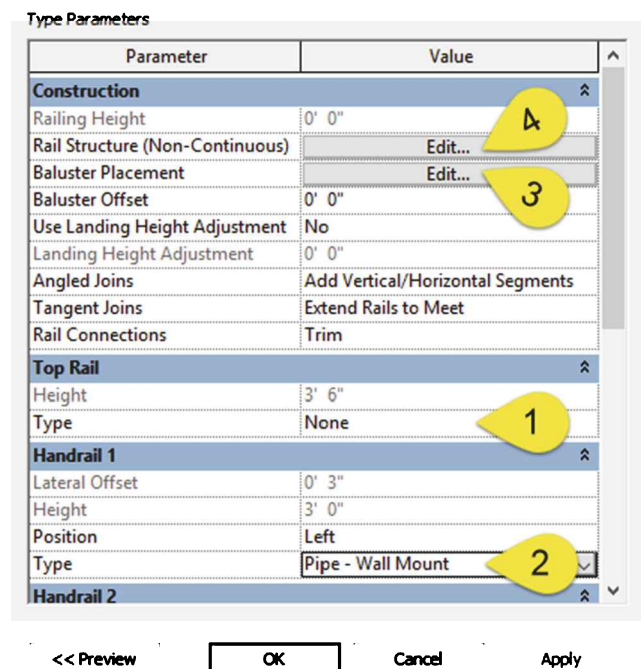

FIGURE 7-7.10 New handrail type; Handrail Only
17. With the railing still selected, click **Edit Type**, select **Duplicate** and enter the new name: **Handrail Only** (Figure 7-7.10).